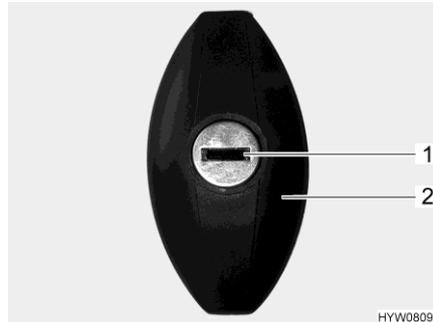

Fig. 39 Flap lock (elliptical-shaped, closed)
- Insert key into locking cylinder (Fig. 39,1) and turn one half turn in an anticlockwise direction. The lock handle (Fig. 39,2) snaps out.